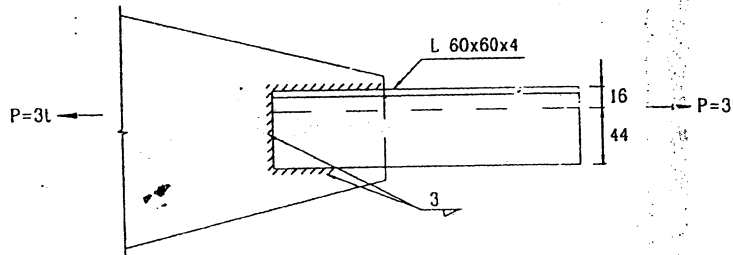

Figure 1
2. Design the welded connection shown in Figure 1 for the applied load of 3 t. Consider the eccentricity of the applied load. Use St. 37.